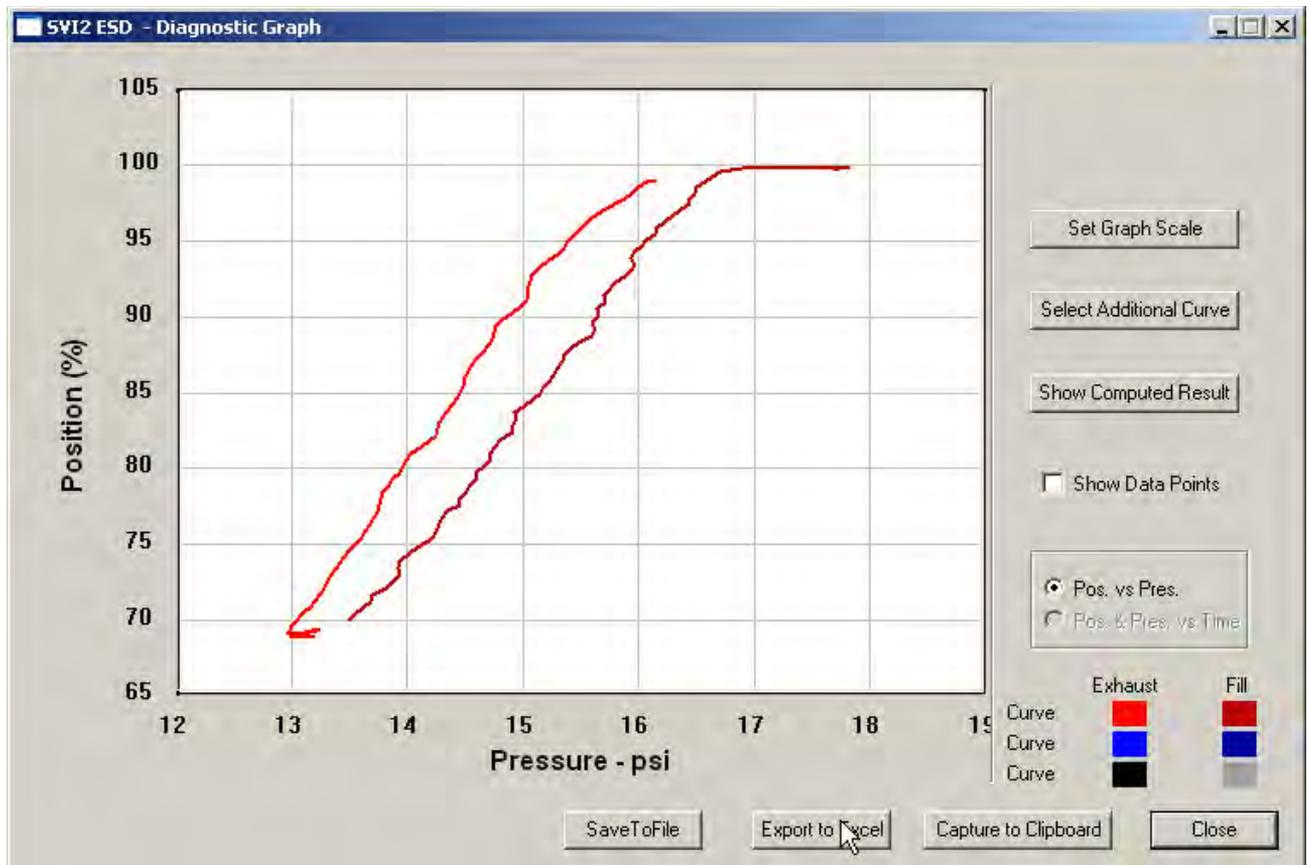

Figure 225 Selecting Export to Excel
- Click **Export to Excel** (Figure 225).